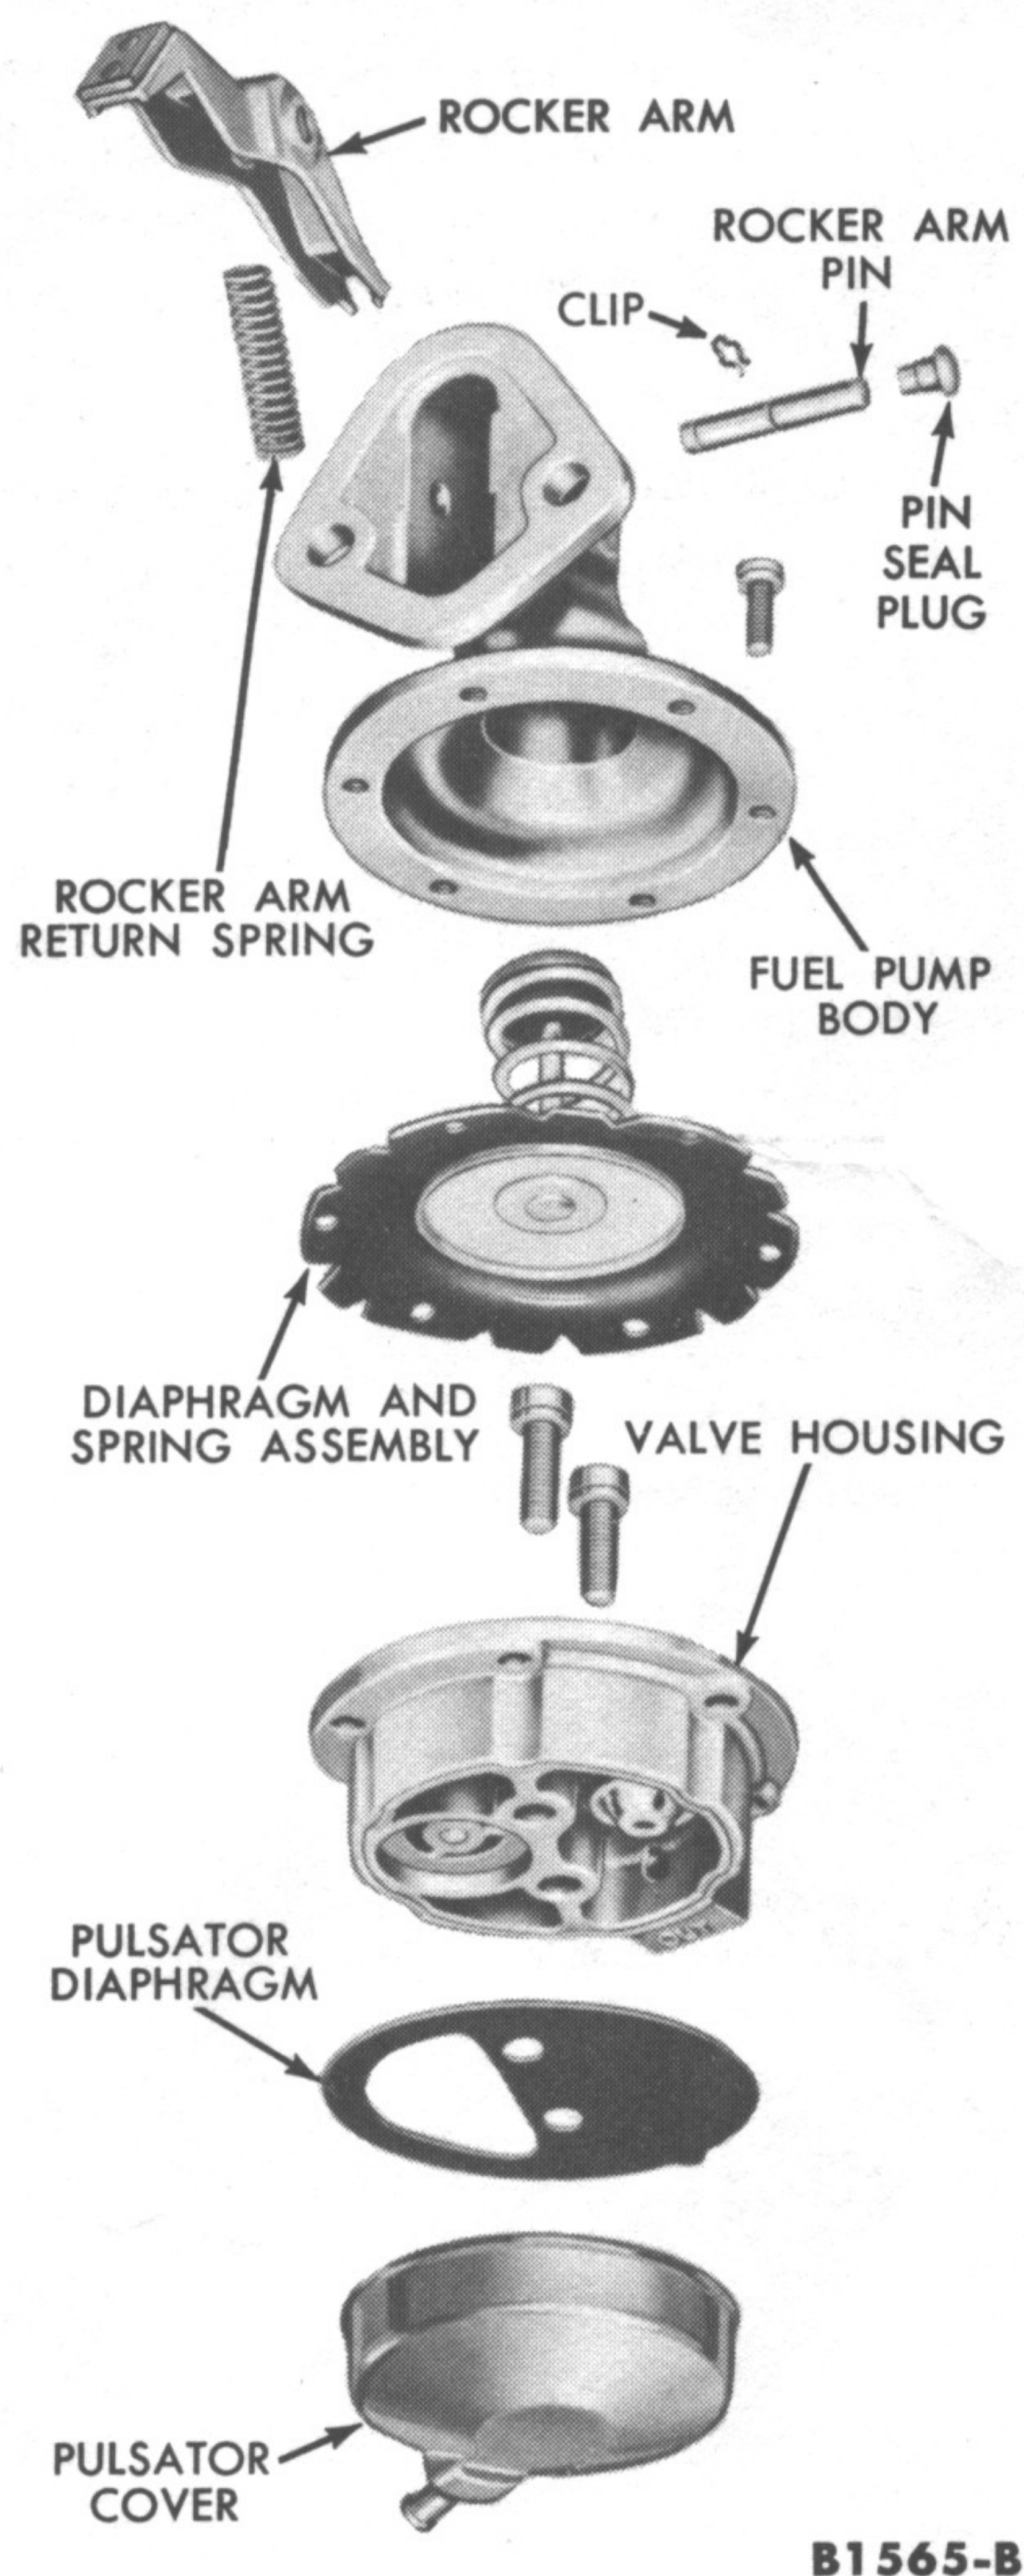

FIG. 35—Fuel Pump Assembly
The fuel pump for the 1963 EEV-144 and EEV-170 engine installations is a new design, single action type, manufactured by Carter. The pump incorporates pressure leak-down bleed holes in the valve assemblies to prevent excessive pressure build-up in the fuel line during hot soak periods. Specifications are identical to those for the 1962 pump. The fuel pump is shown in Fig. 35.
3. Remove the rocker arm return spring, then remove the clip from the rocker arm pin (Fig. 35).
the groove in the center of the rocker arm pin (Fig. 35).